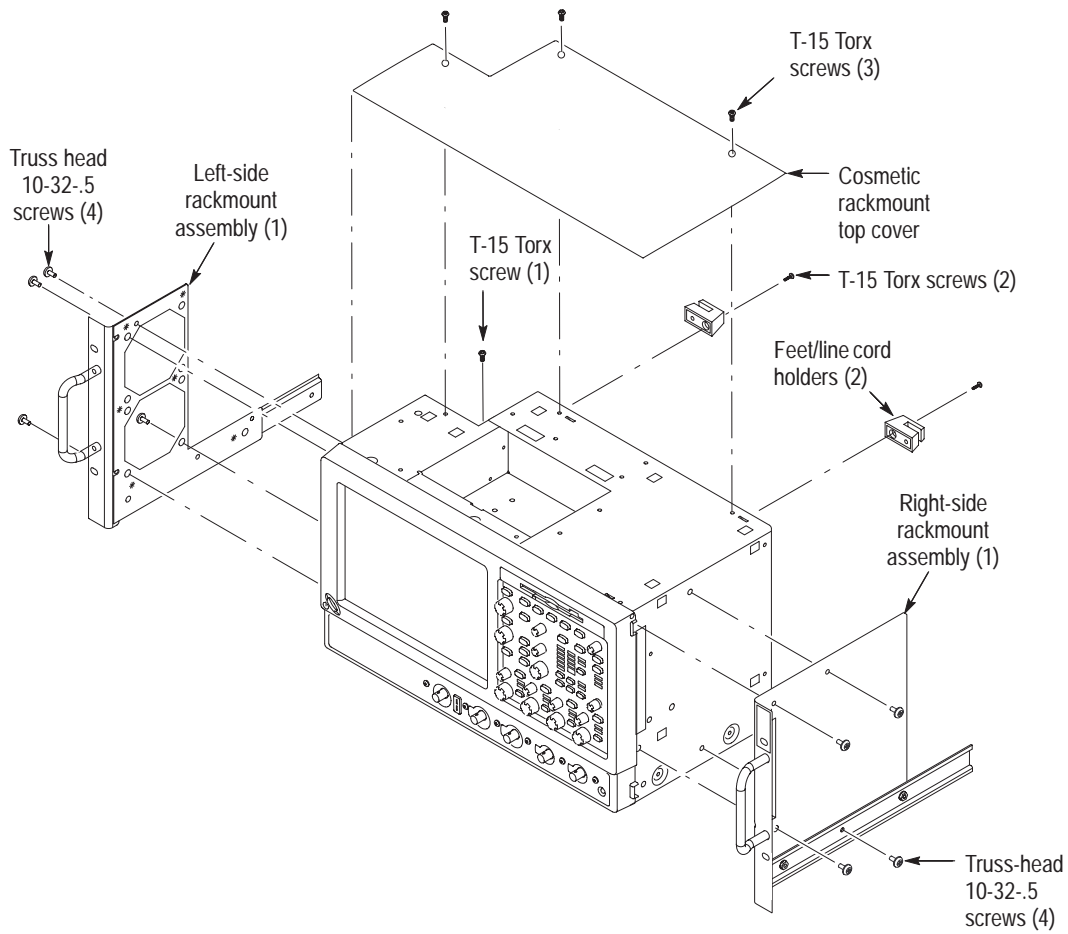

Figure 8: Installation of rackmount assemblies
4. Install the right-side rackmount panel assembly to the right side of the instrument. Secure it by using the four 10-32 Truss-head Phillips screws, applying 28 inch-lbs of torque. Refer to Figure 8, on page 15.
6. If desired, install the cosmetic top cover using 3 Torx screws from the instrument. See Figure 8, on page 15.